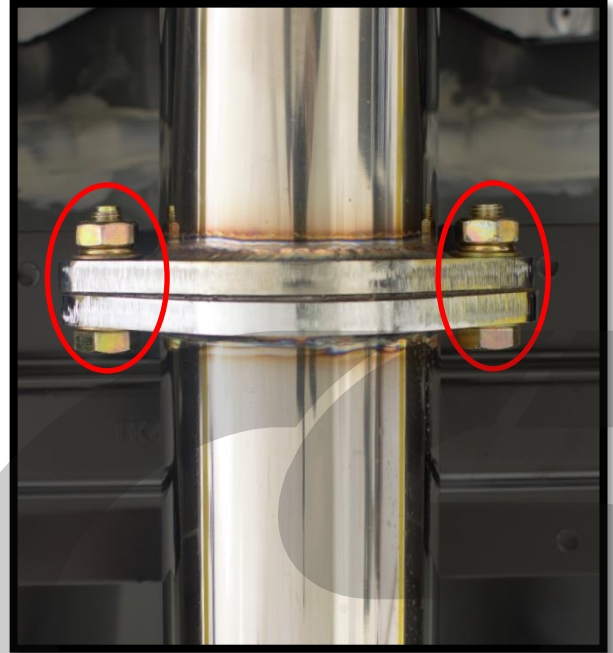
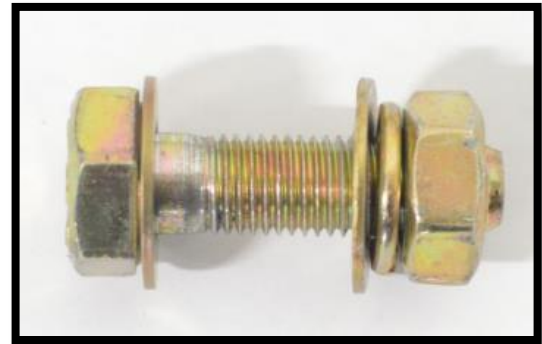

Figure 6a
Figure 6b
- a) Using supplied gasket and hardware, install the CorkSport Midpipe Rear Section onto the CS Midpipe Front Section. Place a supplied 80mm gasket between the two flanges and use supplied hardware to attach the two pipes. Only hand tighten for now. (Shown in Figure 6a). Proper hardware arrangement shown in Figure 6b.